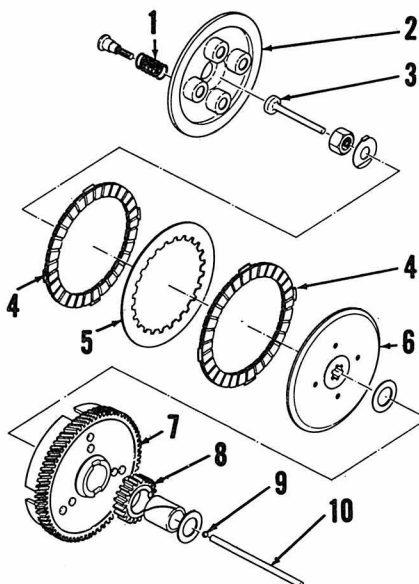

Fig. Y12-11 — Clutch assembly used on JT-1 models.
**CLUTCH.** A wet multi-disc unit with two friction discs and one steel plate is used. (Fig. Y12-11). Proper free length of clutch spring is 1.34 inch. Springs should be renewed if less than 1.30 inch. Standard thickness of a friction disc is 0.137 inch and discs should be renewed if worn to less than 0.123 inch thick.